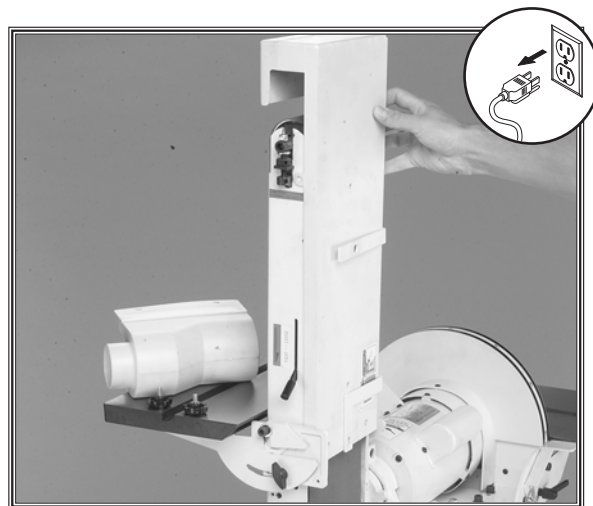

Figure 18. Removing belt guard.
2. Remove all the cover lock knobs from the back of the belt guard and slide the belt guard up and off the sanding belt as shown in **Figure 18**.